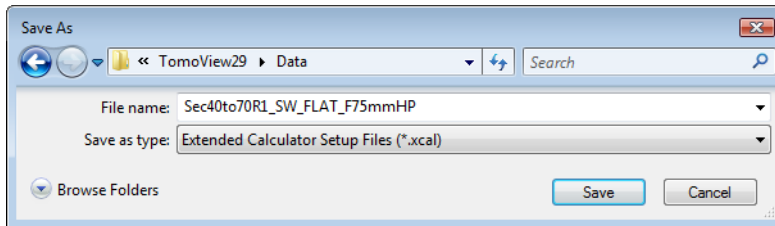

Figure 4-53 The Save As dialog box
- d) Click **Save** (see Figure 4-53 on page 94).